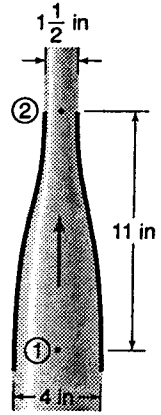

Figure P11.19
11.20 In Fig. P11.19 the pressure at the base of the nozzle, point 1, is 145 kPa, and the power available in the jet at point 2 is 2.55 kW. Find (a) the theoretical height to which the jet will rise; (b) the coefficient of velocity for this nozzle; (c) the head loss between points 1 and 2; and (d) the theoretical diameter of the jet at a point 6 m above point 2.